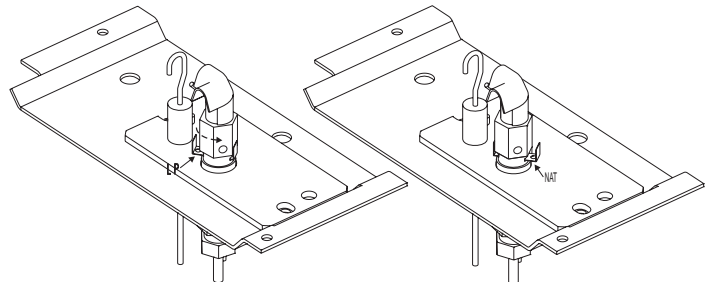

Figure 11
11. Use a 7/16 inch open wrench to loosen pilot body by slightly turning counter clockwise. Slide orifice bracket to other side and tighten pilot body clockwise. **See Figure 11.**